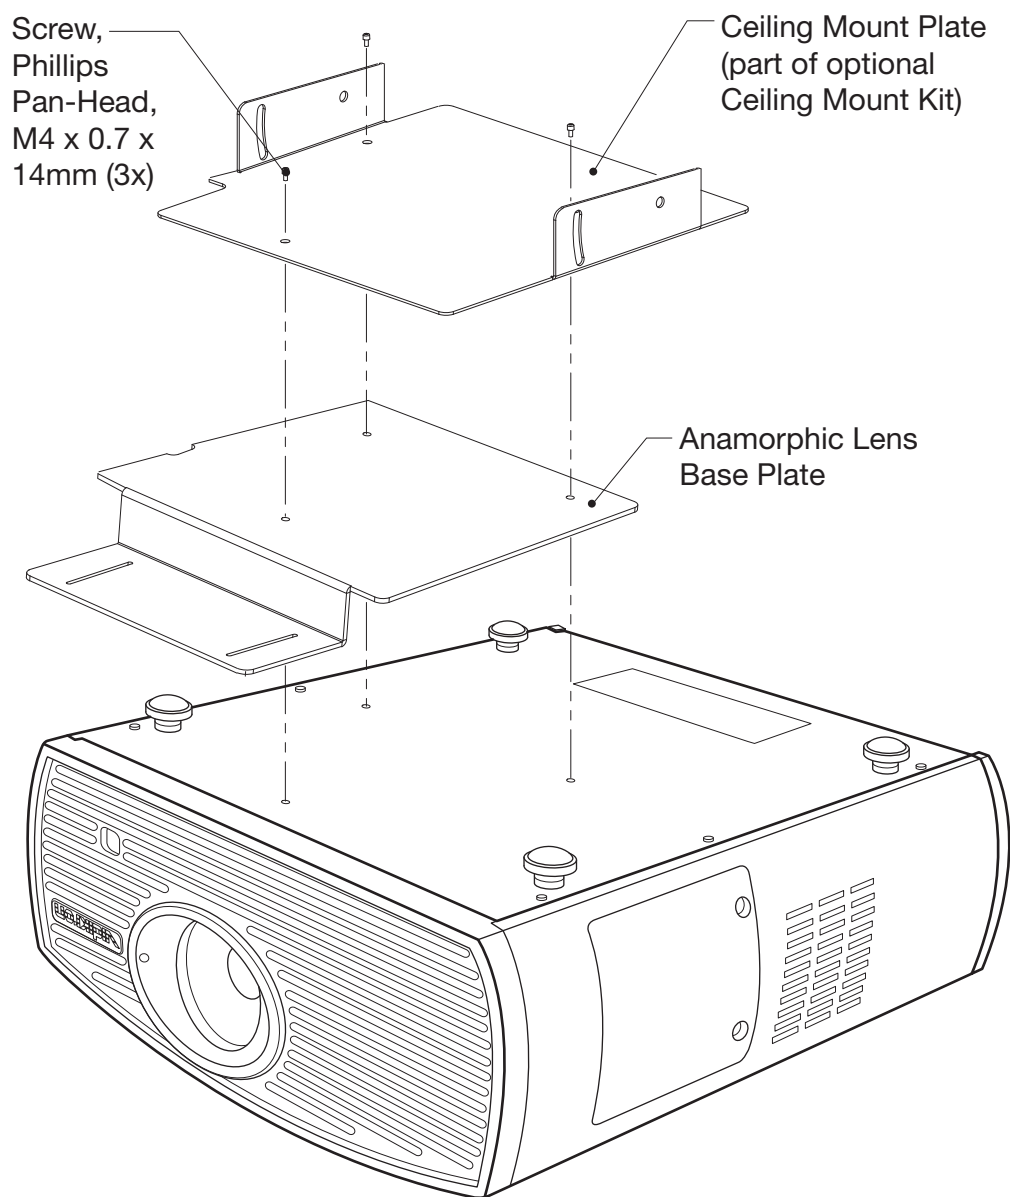

Figure 3-7. Vision 15ET/CineWide with Lens Base Plate and Ceiling Mounting Plate - Exploded View
4. Secure the CineWide base plate (and ceiling mounting plate, if needed) to the projector with the M4x14mm screws provided with the CineWide lens base plate. See Figure 3-7.